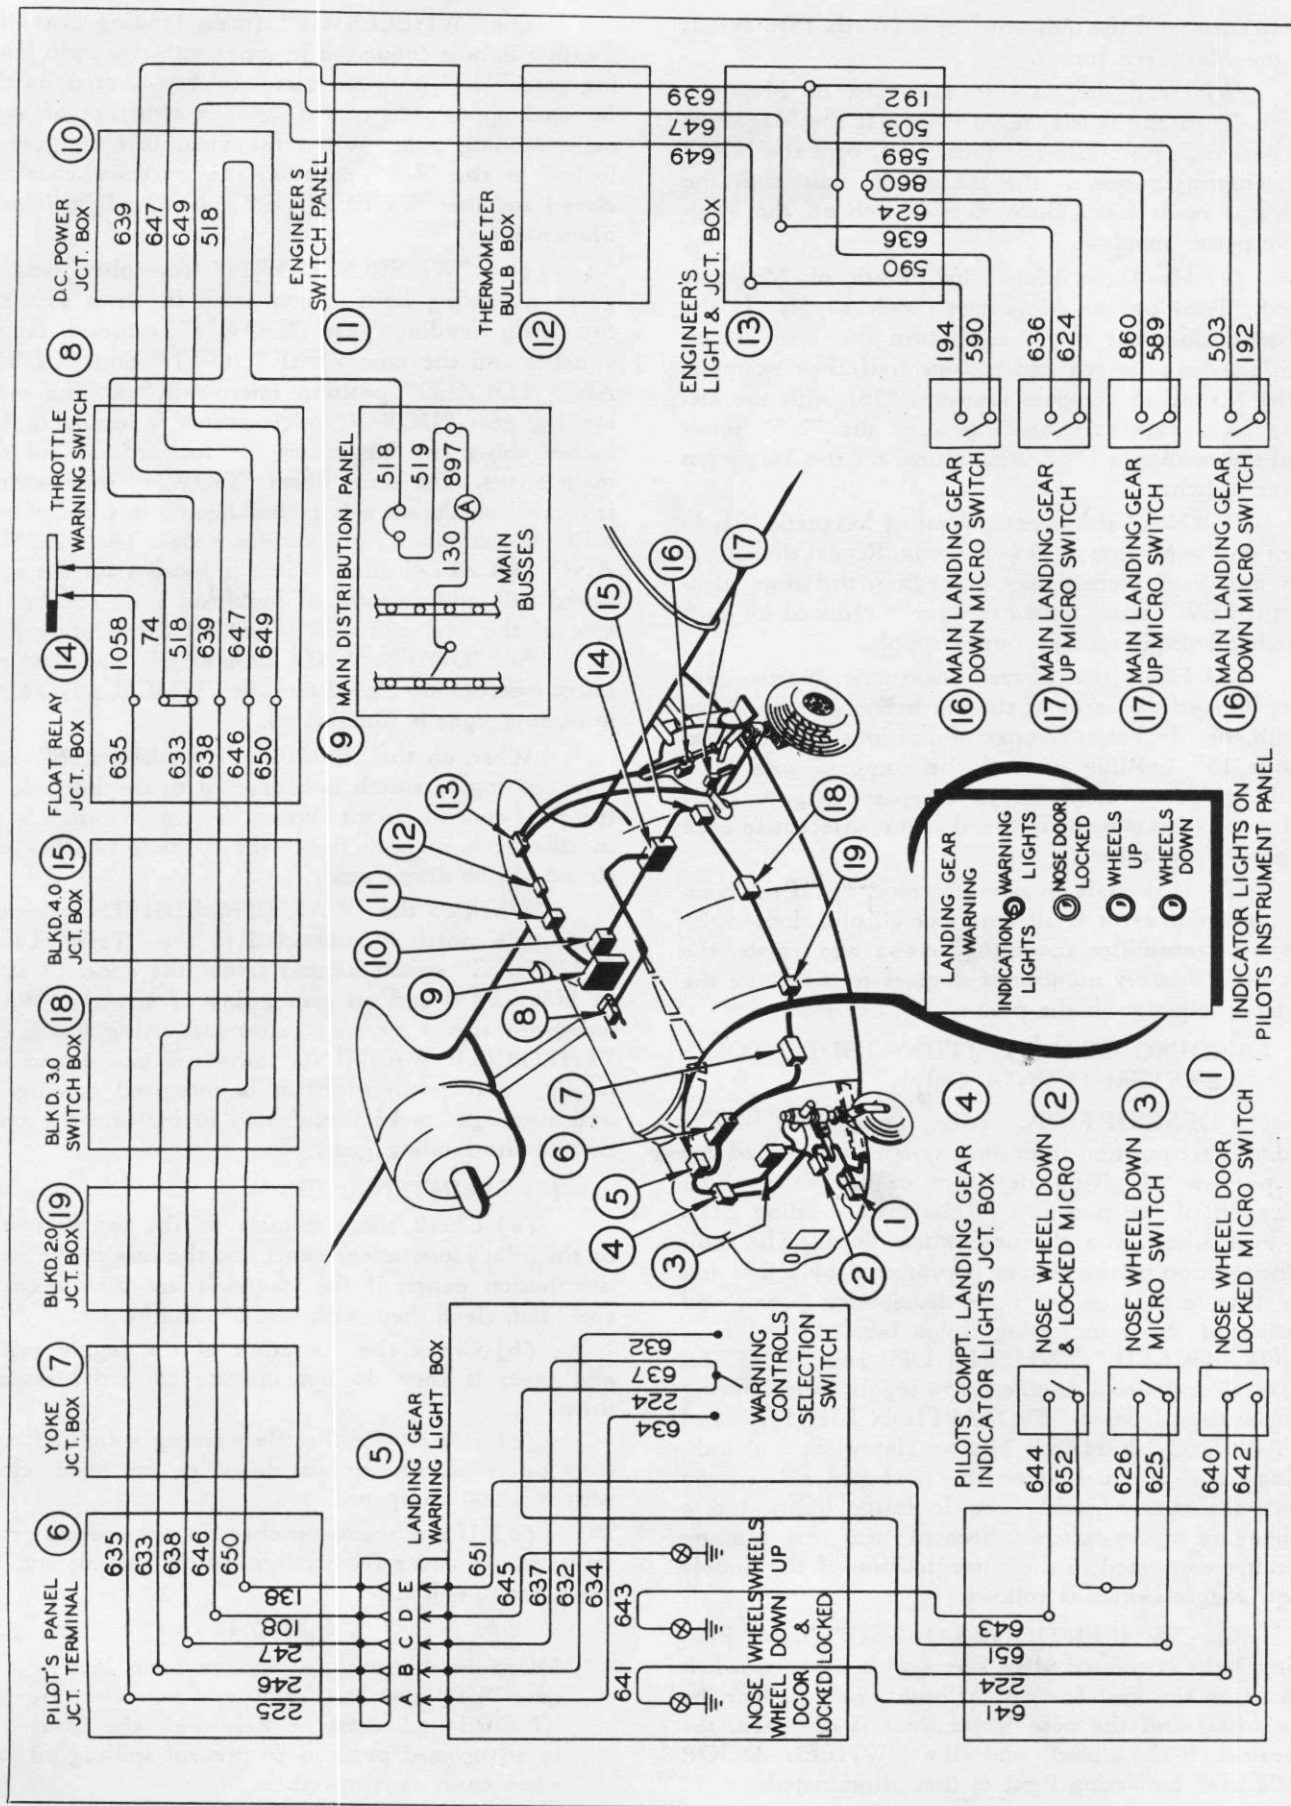

Figure 228—Landing Gear Position Indicator Circuit (PB5-5A Only)
(1) DESCRIPTION. (See figure 228.)—The landing gear position indicating system is provided for the purpose of giving the pilot or copilot a visual indication of the positions of the main landing gear, the nose wheel, and the nose wheel doors. The indicating portion of the system is protected by a five ampere fuse located on the main distribution panel, and consists of three indicating lights labeled "WHEEL DOOR LOCKED," "WHEELS UP" and "WHEELS DOWN" and also a double throw toggle switch having two positions labeled "INDICATION LIGHTS" and "WARNING LIGHTS." The toggle switch and indicating lights are located on the starboard side of the pilot's instrument panel. The indicator lights and a number of micro-switches, located near the landing gear, are connected to the outer position of the double throw toggle switch as follows:
(h) Inspect wires and wire terminals in junction boxes shown on wiring diagram. (See figure 228.)
Defective or loose wiring connections in landing gear "UP" circuit.	Check and correct. (See figure 228.)
Defective or loose wiring connections in landing gear "DOWN" circuit.	Check and correct. (See figure 228.)